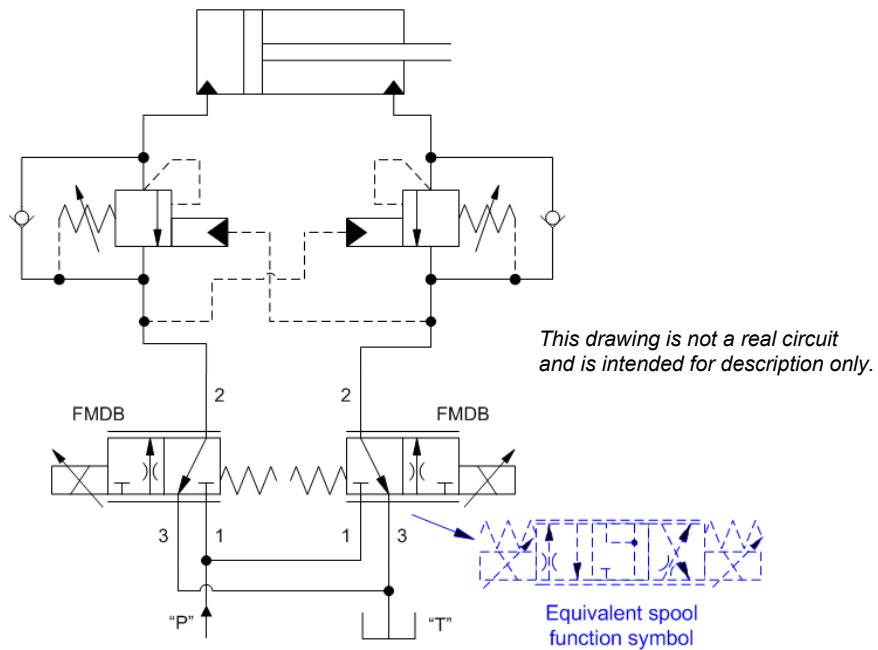

Figure 11.
- Two FMDB series valves can be used to create a 4-way, 3-position function where the return passage for flow is through the valve. (See Figure 11.)
- Two different proportional flow ranges can be chosen to match various cylinder ratios, with either the 4-way function or the cushion lock circuit shown in figures 11 and 12. (*This approach negates the need for special ratio spools.*)